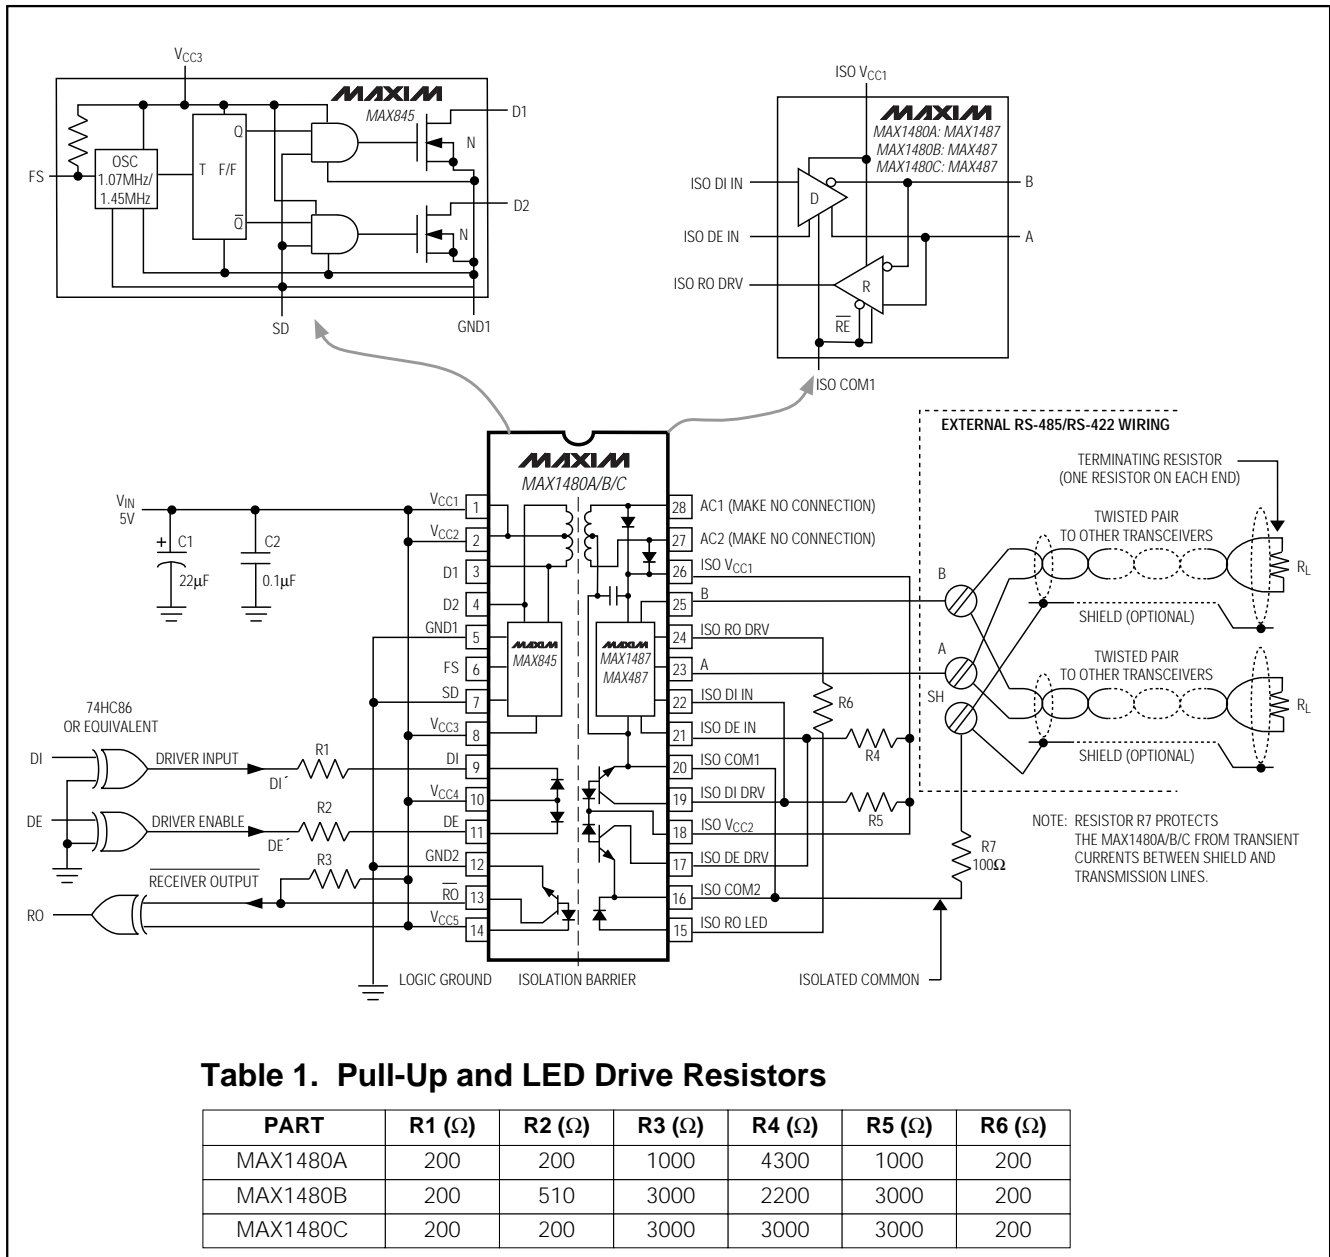
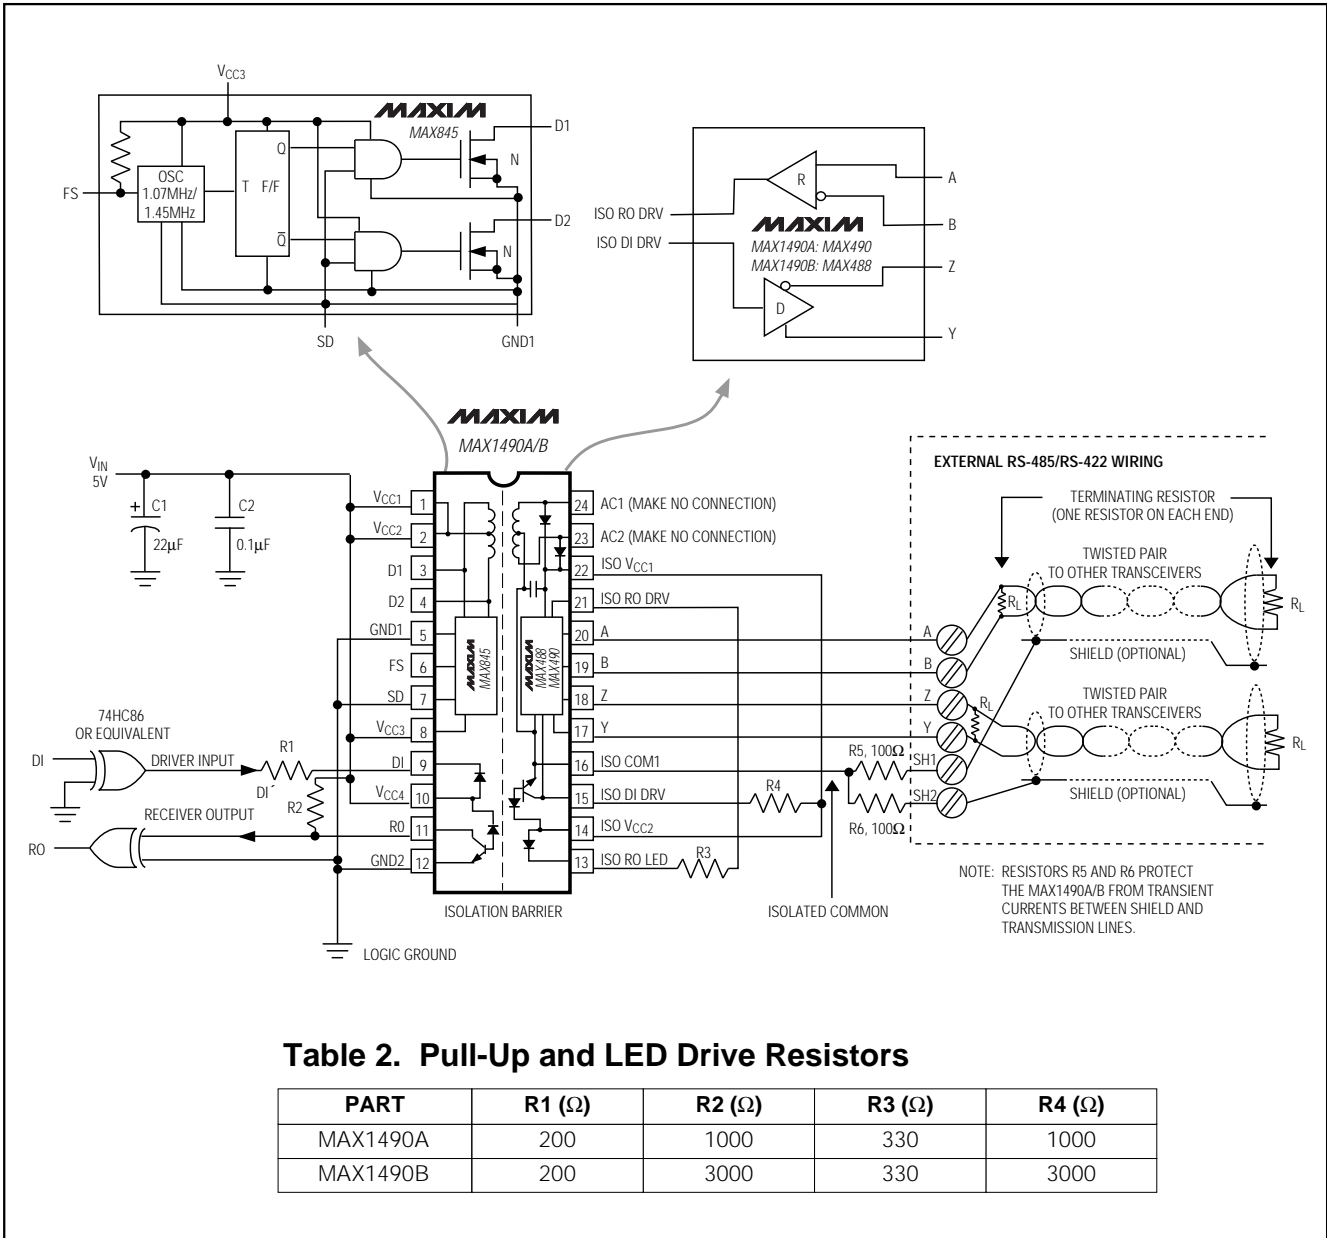

Figure 1. MAX1480A/MAX1480B/MAX1480C Detailed Block Diagram and Typical Application Circuit
Figure 2. MAX1490A/MAX1490B Detailed Block Diagram and Typical Application Circuit
**Note 2:** For DE1 and DI1 pin descriptions, see *Detailed Block Diagram and Typical Application Circuit* (Figure 1 for MAX1480A/MAX1480B/MAX1480C, Figure 2 for MAX1490A/MAX1490B).
**Note:** For DĒ and DĪ pin descriptions, see *Detailed Block Diagram and Typical Application Circuit* (Figure 1 for MAX1480A/B/C, Figure 2 for MAX1490A/B).
The MAX1480A/MAX1480B/MAX1480C/MAX1490A/MAX1490B are complete, electrically isolated, RS-485/RS-422 data-communications interface solutions. Transceivers, optocouplers, a power driver, and a transformer in one standard 28-pin DIP package (24-pin for the MAX1490A/B) provide a complete interface. Signals and power are internally transported across the isolation barrier (Figures 1, 2). Power is transferred from the logic side (non-isolated side) to the isolated side of the barrier through a center-tapped transformer. Signals cross the barrier through high-speed optocouplers. A single +5V supply on the logic side powers both sides of the interface. The MAX1480A/B/C offer half-duplex communications while the MAX1490A/B feature full-duplex communication. The functional input/output relationships are shown in Tables 3–6.
\* For DE1 and DI1 pin descriptions, see *Detailed Block Diagram and Typical Application Circuit* (Figure 1 for MAX1480A/B/C, Figure 2 for MAX1490A/B).
The MAX1480A/MAX1480B/MAX1480C/MAX1490A/MAX1490B are specified and characterized using the resistor values shown in Table 1 of Figure 1 and Table 2 of Figure 2. Altering the recommended values can degrade performance.
The isolated common may be completely floating with respect to the logic ground and the effective network ground. The receiver input resistors will cause the isolated common voltage to go to the mean voltage of the receiver inputs. If using shielded cable, tie the isolated common to the shield through a 100Ω resistor. In the case of the MAX1490, each shield should have its own 100Ω resistor (Figures 1, 2, 13, and 14).